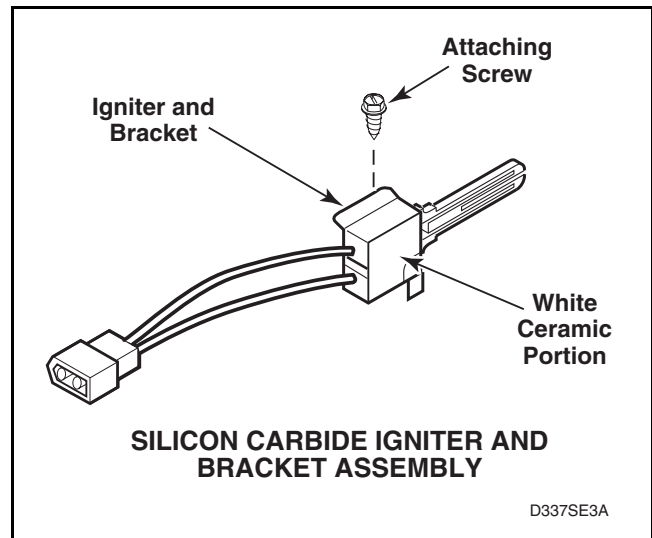

Figure 16
- f. **Silicon Carbide Igniter** – meter should read between 45 – 200 Ohms. Refer to *Figure 16*.